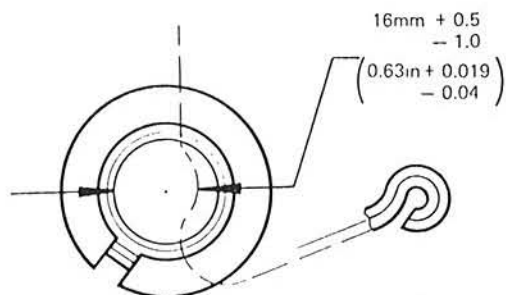

Fig. 11.15 Bonnet locking spring setting dimension (Sec 26)
- 6 Adjustment of the bonnet locking spring can be made by slackening the cable clamp on the upper crossmember and sliding the outer cable through the clip as necessary. When correctly positioned, the hood lock spring/cable setting dimension should be as shown in Fig. 11.15. Tighten the clamp screw when the adjustment is satisfactory.